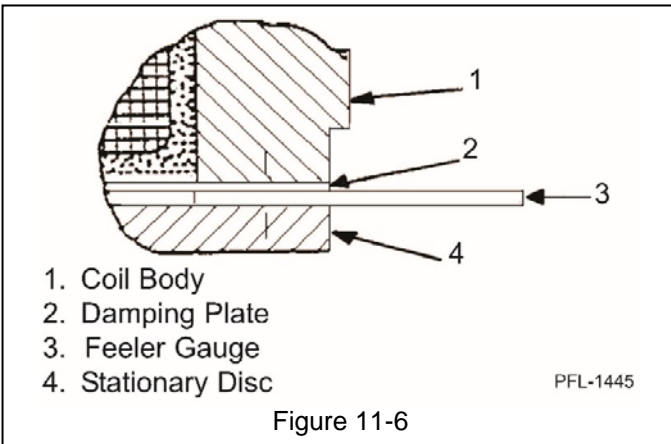
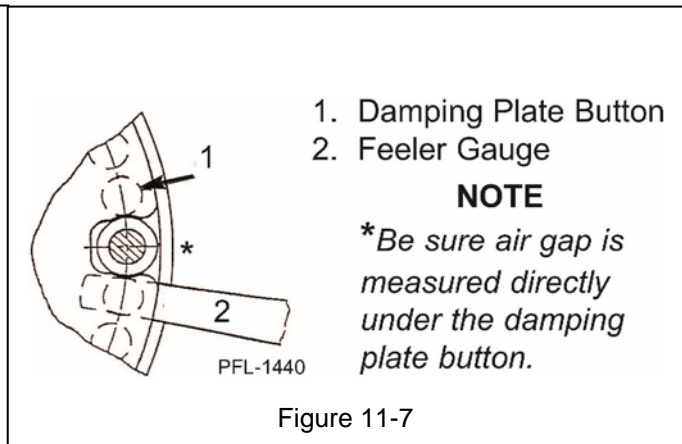

Figure 11-6
Figure 11-7
4. Loosen the three brake adjustment nuts until the correct brake working air gap is obtained between the shim and stationary disc. See the table below for the correct air gap. Also refer to Figure 11-6 and Figure 11-7 on the next page.